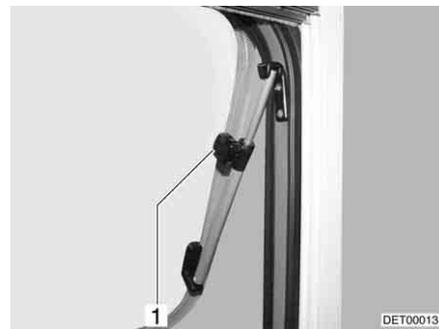

Fig. 50 Hinged window with rotary hinges, open
- Open the hinged window until the required position has been reached and use knurled knob (Fig. 50,1) to secure in position.
- Turn knurled knob (Fig. 50,1) until the latch is released.